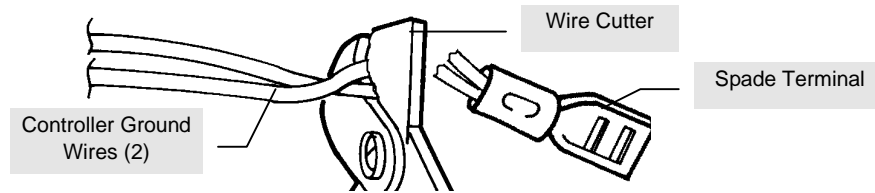

Figure 3 Cutting Spade terminal from ground wires
3. Cut the spade connector from the two ground wires and strip 1/4" of insulation from the wires (see figure 3).